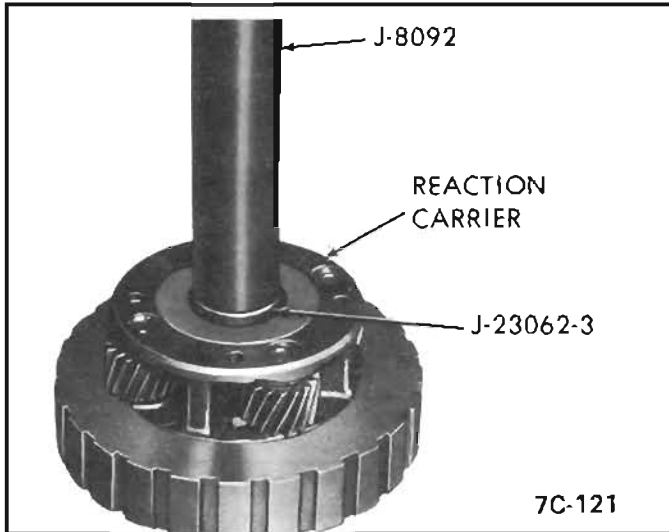

Figure 126 Reaction Carrier Bushing Installation
- Thread Tool J-23062-3 on Drive Handle J-8092 and remove bushing. *See Figure 126.*
- Using Tool J-23062-3, press in new bushing flush to .010" from inner surface of hub. *See Figure 126.*